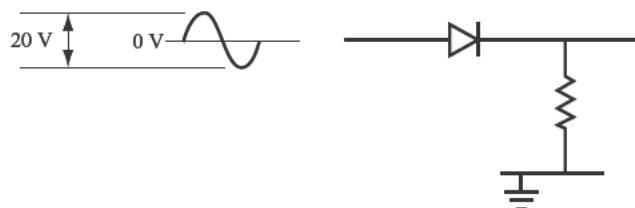
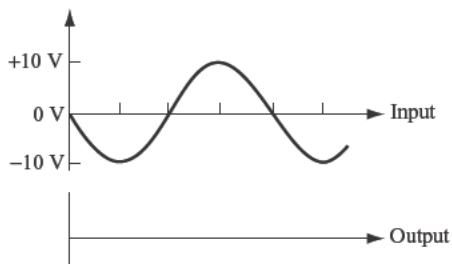

FIGURE 11.3
FIGURE 11.6
- 3 Figure 11.3 shows a circuit with 20 V_{pp} AC input signal centered at 0 volts DC.
4 When the input is negative, the diode in the circuit shown in Figure 11.3 is reverse-biased. Therefore, the output voltage remains at 0 volts.
Figure 11.6 shows the input waveform for the circuit shown in Figure 11.3. Draw the output waveform on the blank graph provided in Figure 11.6.
- 5 Figure 11.7 shows the output waveform of the circuit shown in Figure 11.3, for one complete cycle of the input waveform.
Now, draw the output waveform for three complete cycles of the input waveform shown in Figure 11.6. Use a separate sheet of paper for your drawing.
On a separate sheet of paper, draw the output waveform for three input cycles, assuming that the diode is connected in the opposite direction from the diode shown in Figure 11.3.